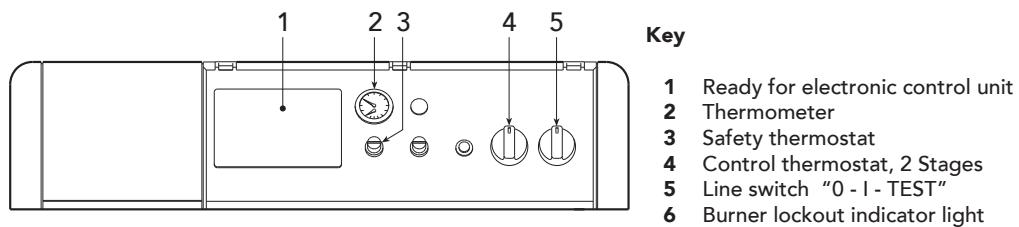

fig. 1
For brief periods of inactivity, simply move switch **5** (Fig. 1) on the control panel to position "0".
- a - Burner lockout signalled by the corresponding light **6** (Fig. 1). Refer to the burner manual.